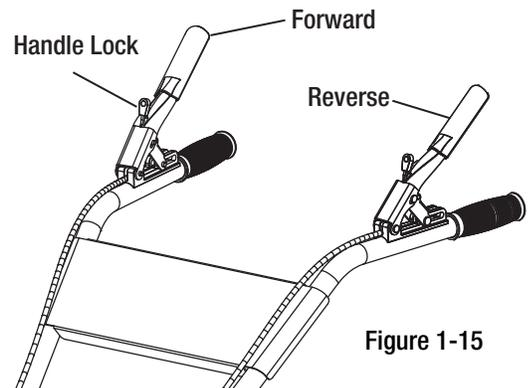

Figure 1-15
- Engages wheels and tines into reverse. See Figure 1-15